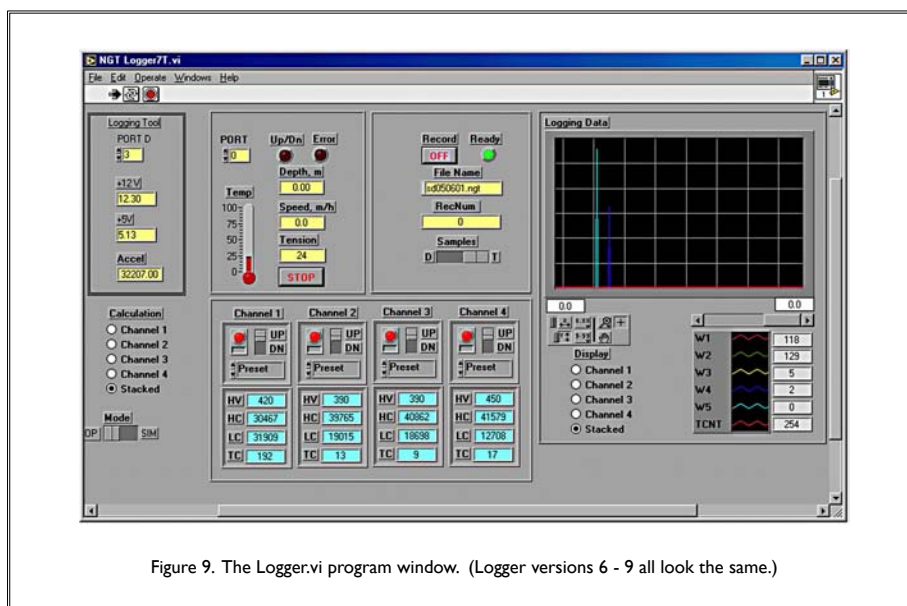

Figure 9. The Logger.vi program window. (Logger versions 6 - 9 all look the same.)
6. Open the MGT-appropriate application located on the DHML PC desktop. If the HRDC is installed (this is the default), use NGT Logger9.vi; if the HRDC is not installed, use NGT Logger8.vi. A generic Logger.vi program window is shown in Figure 9, below.